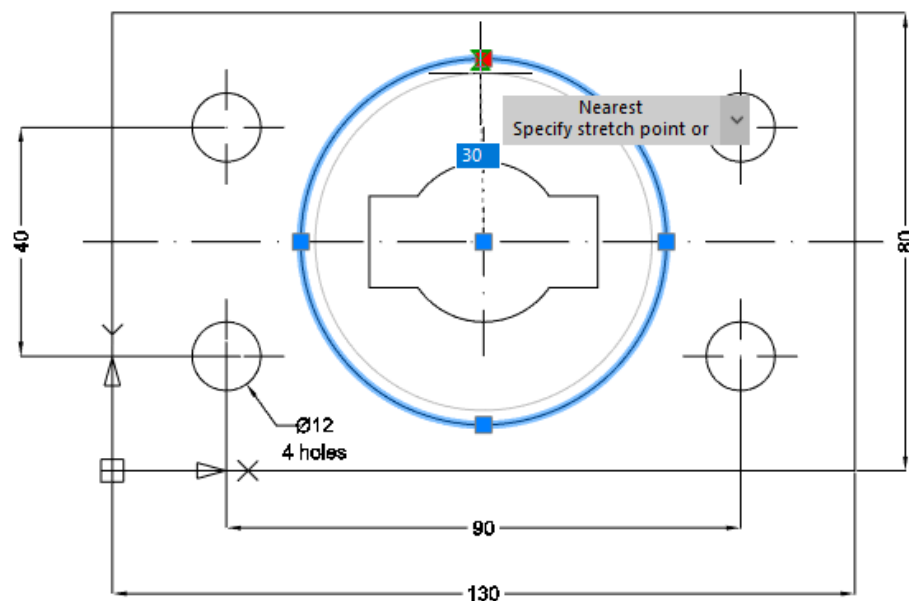

Fig. 11. Change the circle radius.
8. Change the radius of the big circle. To do so, select the circle, press on vertices (fig. 11). In the dynamic field type 30: